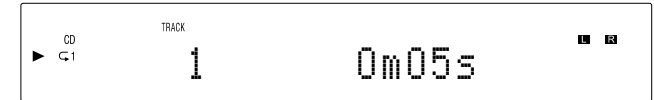

Figure 23
1. With the disc playing (Regular, Program or Random Playback Modes), press the REPEAT Push-button once to activate the Track Repeat (◁1); press the REPEAT Push-button twice to activate the Disc Repeat (◁). Refer to figures 23 and 24.